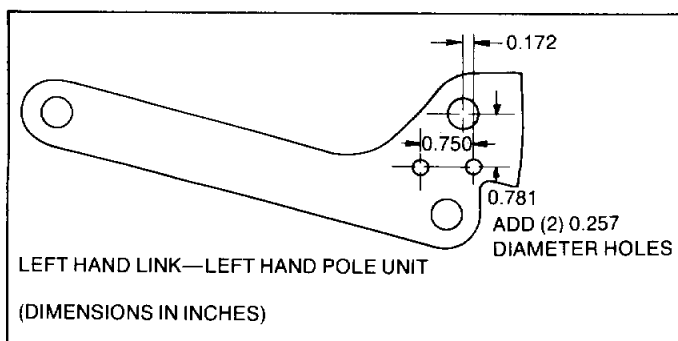

Fig. 3-2. Actuator bracket — mounting hole pattern
If the actuator bracket mounting holes are not in the left side link, the holes must be added. Drill and tap two (2) five-sixteenths ($\frac{5}{16}$) of an inch x 18-inch holes using the hole pattern given in Fig. 3-2.